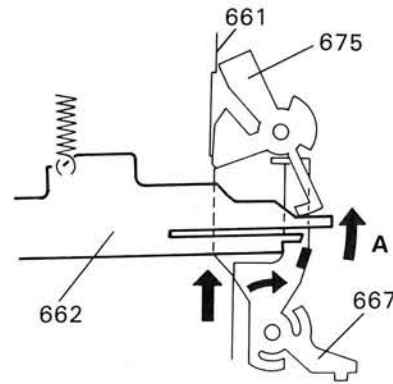

Fig. 8
The cycle plate (661) and the discrimination lever (667) hit against each other. The switch lever (662) is thereby released from its holding to move in the direction of arrow A to fix the manual lever (675) at the position shown in Fig. 8.